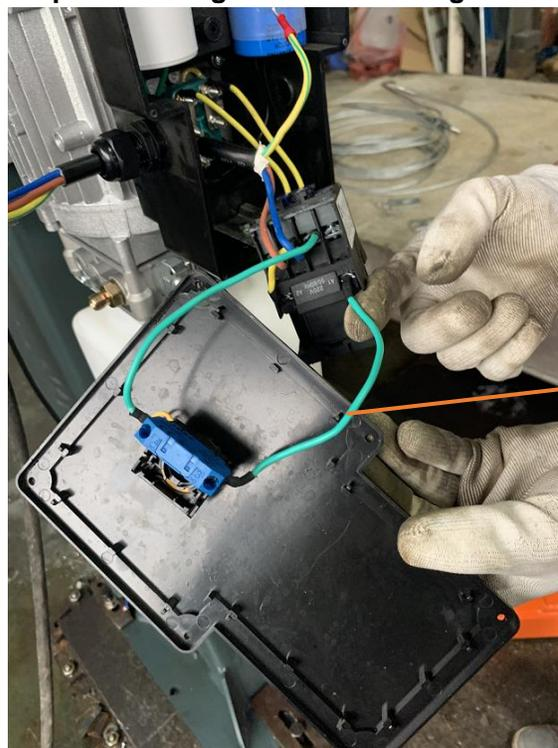

Fig. 12
3.2 Disconnect the ground wire, take out the AC contactor (Fig. 12).